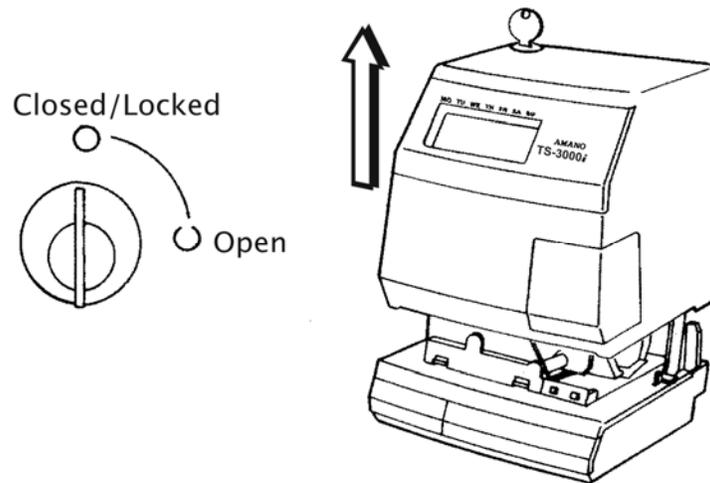

Figure 2-2: TS-3000i Web Clock Cover Removal
Step 2. Insert the key, turn the key clockwise, and remove the upper cover of the TS-3000i (see *Figure 2-2*).
- Step 14.** Replace the upper cover of the TS-3000i (see *Figure 2-2*).
- Step 2.** Insert the key, turn the key clockwise, and remove the upper cover of the TS-3000i (see *Figure 2-2*).
- Step 15.** Insert and tighten the two (2) top plate side retaining screws (one on each side).
- Step 16.** Replace the upper cover of the TS-3000i (see *Figure 2-2*).